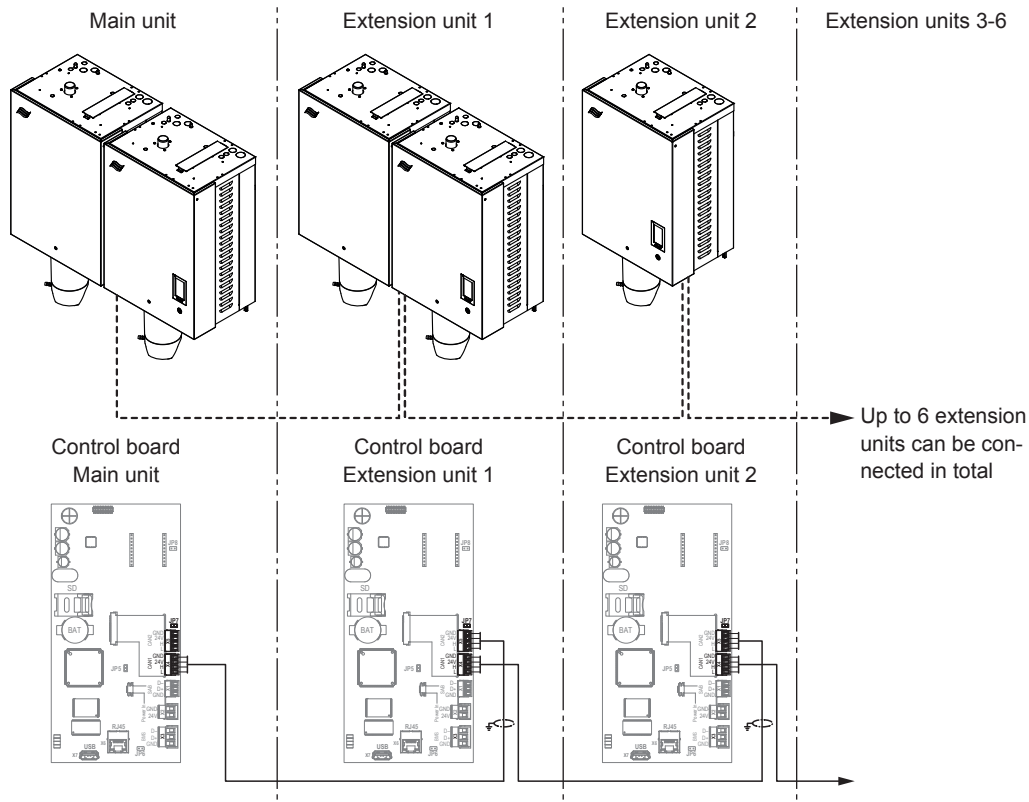
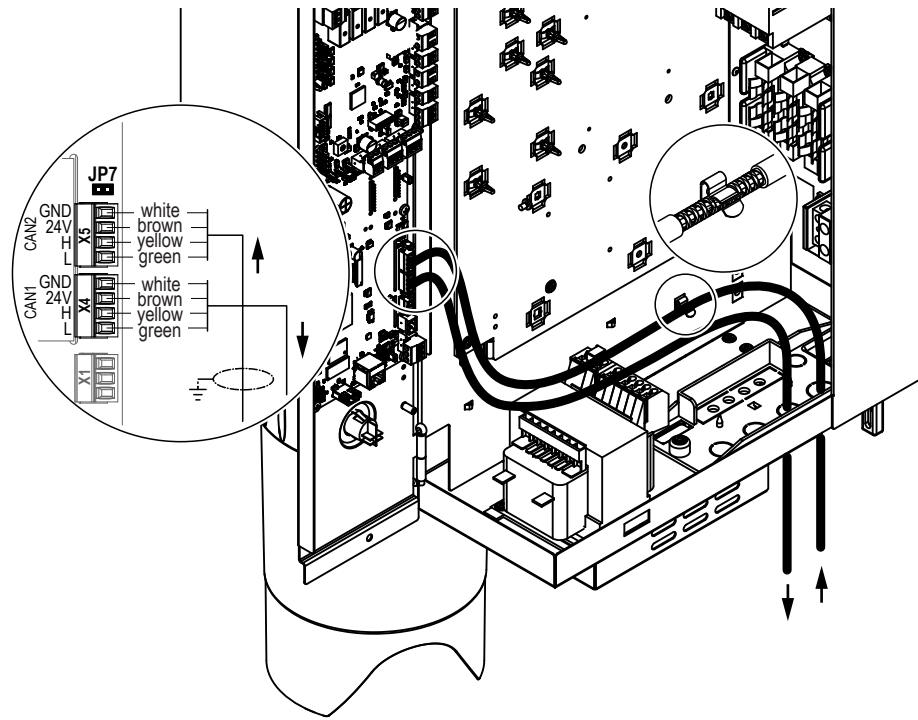

Fig. 25: Connecting multiple units (device interconnected system)
Fig. 26: CAN Bus cable connection / Shielding
Connect multiple units as follows (see Fig. 25):
2. Connect all devices in the "device interconnected system" using the supplied pre-assembled CAN Bus cables according to the diagram shown in Fig. 25 and Fig. 26.
- Pinch the freed shielding of the pre-assembled CAN Bus cable coming from the previous device into the clamp holder inside the control compartment of the humidifier as shown in Fig. 26.
- Connect CAN Bus cables to the corresponding terminal block (incoming cables to "X5" and outgoing cables to "X4") as shown in Fig. 26 on the control board of each device.